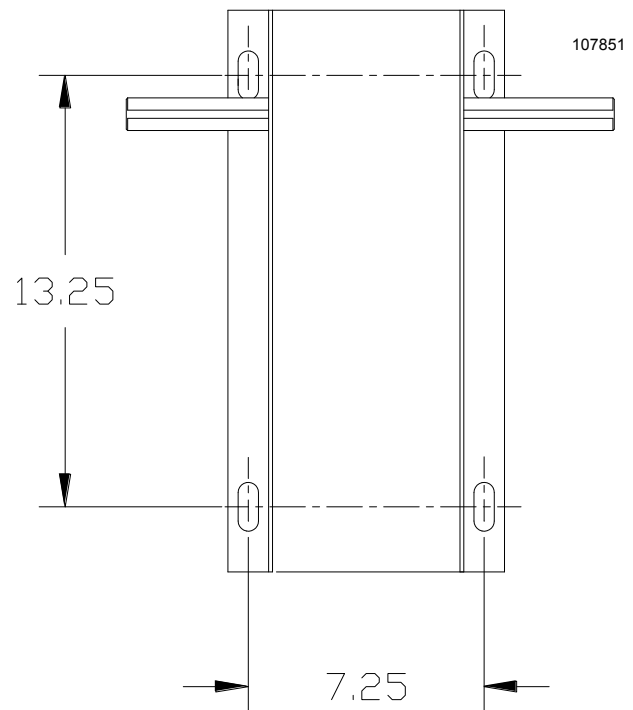
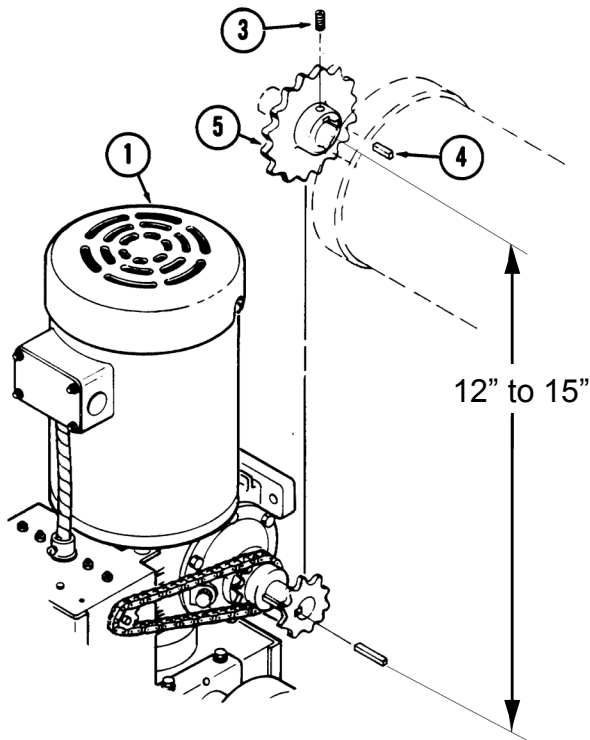

Figure 2
Figure 3
Refer to **Figure 2** (at right), **Figure 1**, page 4 and **Figure 7**, page 9 for component identification and the operator mounting slot locations. Place the sprockets [5] and [14] on the chosen side of the torsion shaft of the door and on the corresponding end of the output shaft of the operator, see **Figure 3**. The sprockets should be kept as close as possible to the bearings. Fasten the connecting link to each end of the door chain and loop the chain over the sprocket [5] on the torsion shaft. Temporarily suspend the operator in its mounting position using the chain over the sprocket [14] at one end of the jackshaft and a rope or chain at the mid point (to support the operator weight). With the chain tight and straight and the jackshaft **parallel** with the torsion shaft, trace the mounting slot on the mounting surface then lower the operator to the floor.
If there isn't a keyway on the doorshaft, keep the sprockets aligned and drill a 5/16" hole through the door drive sprockets and door shaft. Insert roll pin, Item (2). See **Figures 3 & 4**. **BEFORE PROCEEDING WITH THE OPERATOR INSTALLATION AND SETTINGS, MAKE A FINAL CHECK FOR TIGHTNESS OF ALL MOUNTING HARDWARE AND SET SCREWS.**